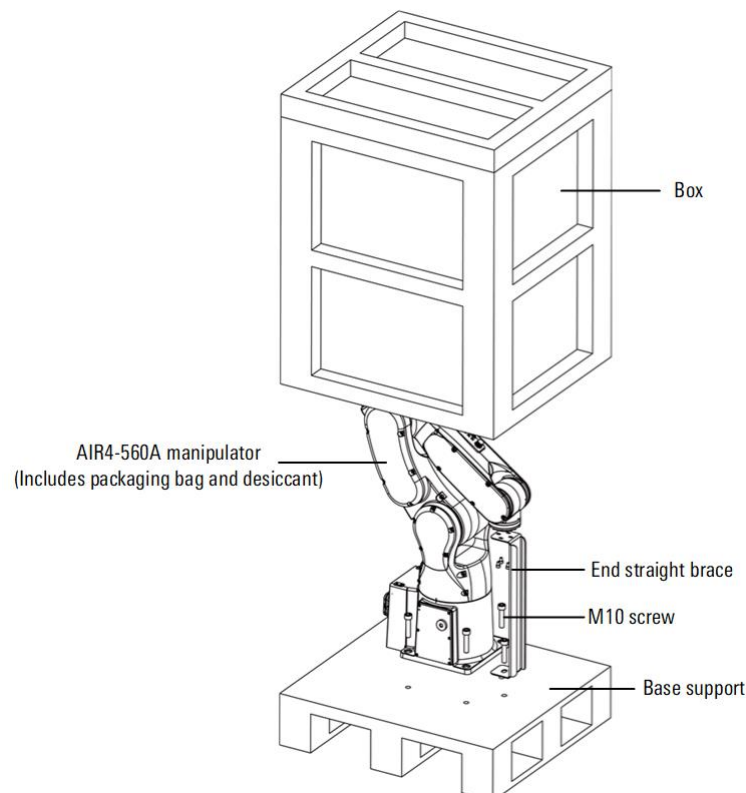

Figure 3-2 Composition of the AIR4-560A manipulator packaging box
As shown in Figure 3-2, the packaging box of the AIR4-560A manipulator is composed of a box body and a bottom support.
Step2.According to the position shown in Figure 3-2, transport the AIR4-560A manipulator to the center position of the base bracket. Use an Allen wrench to tighten the M10 screws, washers, and M10 nuts connecting the AIR4-560A manipulator, base bracket, and end support to secure the manipulator to the base bracket.
Step3.According to the position shown in Figure 3-2, place the box on the bottom support, and use a wrench to tighten the screws, washers, and nuts that secure the box and bottom support.